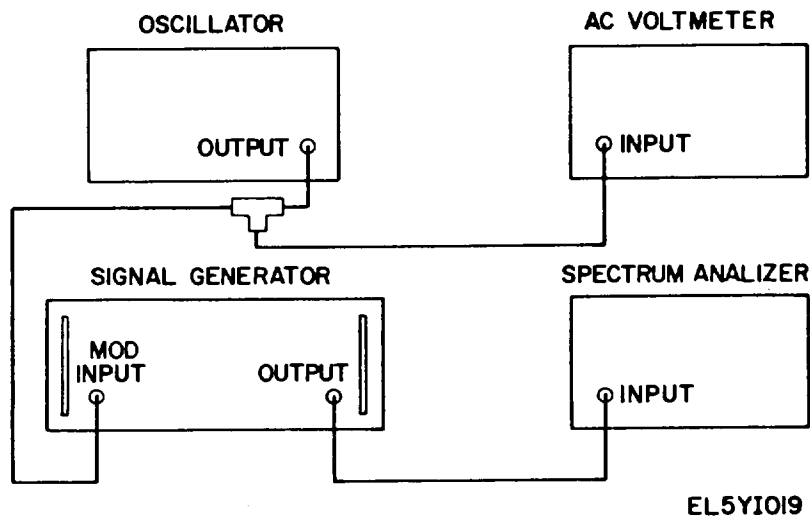

FIGURE 9-8. TEST SETUP, EXTERNAL AM SENSITIVITY
- a. Connect the equipment as shown in figure 9-8.